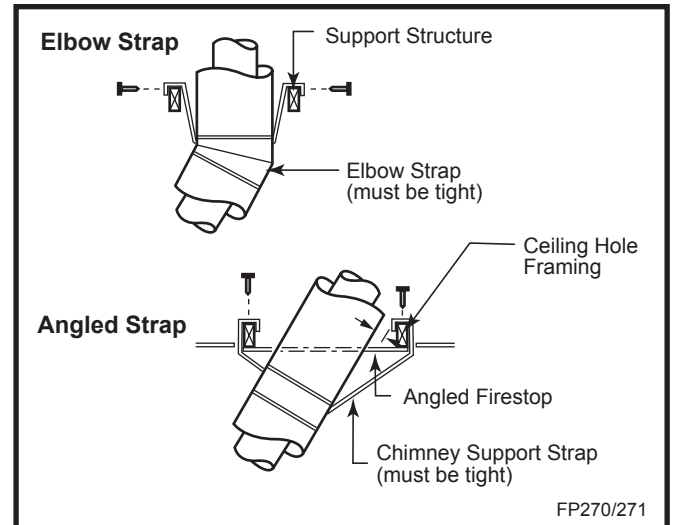

Fig. 37 Attach straps to a structural framing member.
- SKCS8 must be used to support offsets. (Fig. 37) This application will require that you first determine the roof pitch and use the appropriate starter kit. (Refer to Venting Components List)